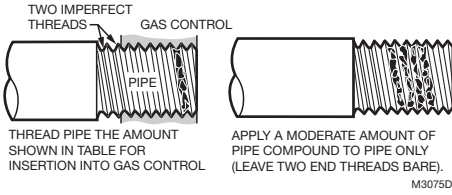

Fig. 3. Use moderate amount of pipe compound
3. Thread pipe the amount shown in Table 4 for insertion into gas control. *Do not thread pipe too far.* Valve distortion or malfunction may result if the pipe is inserted too deeply into the gas control. See Fig. 3.